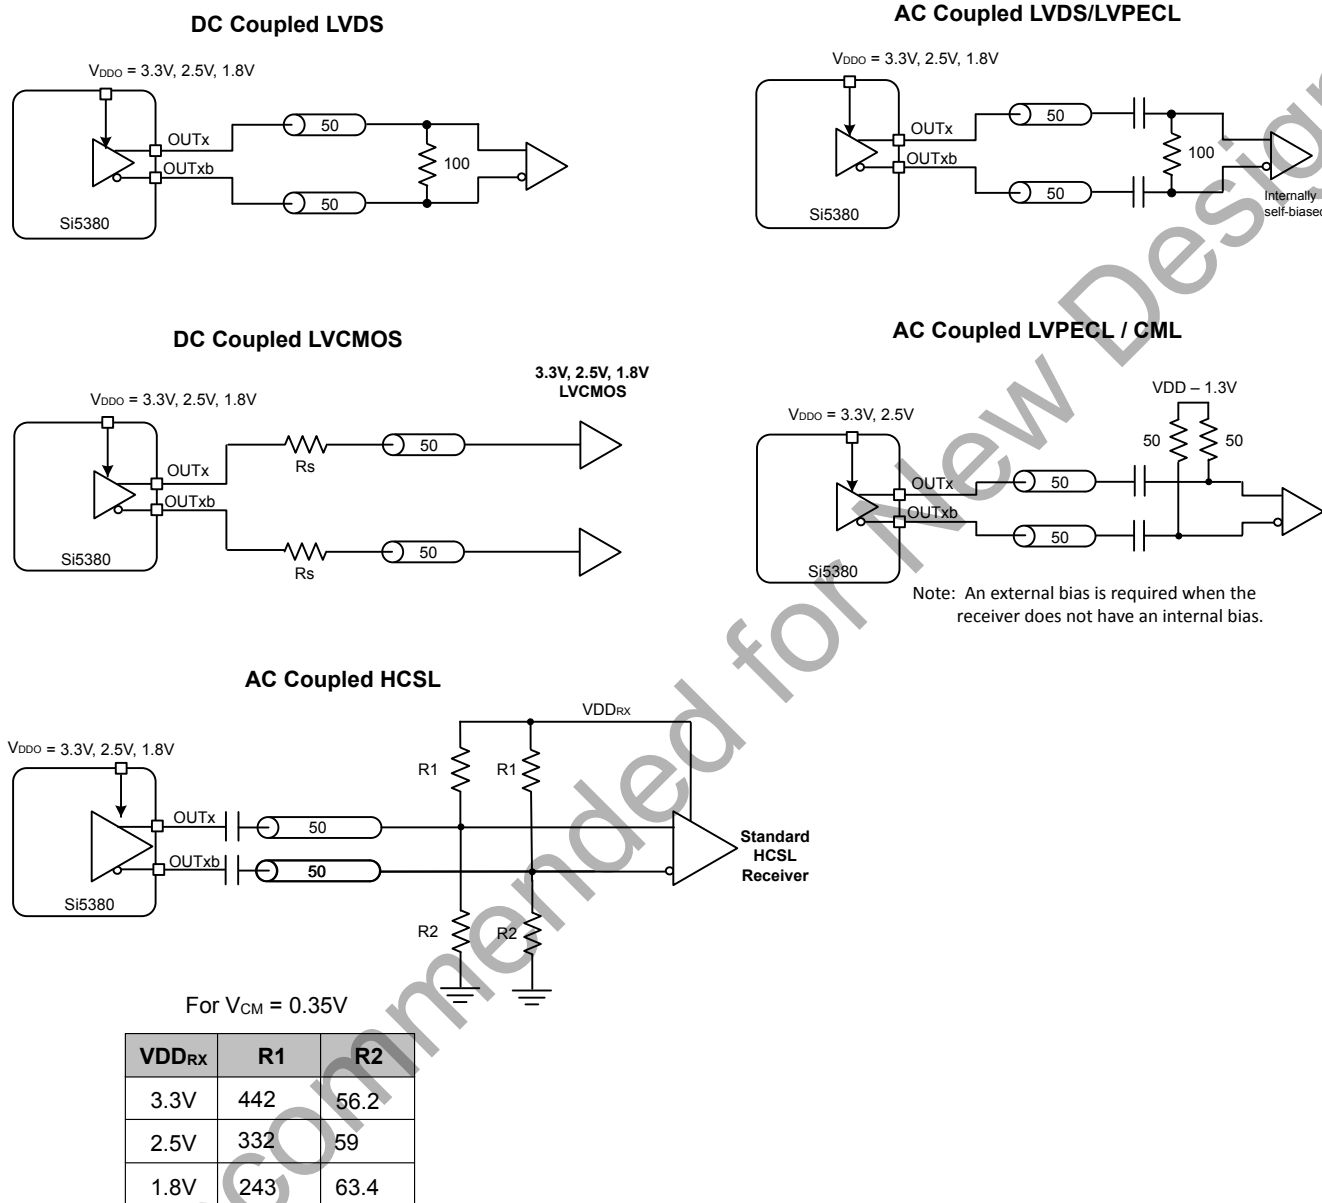

Figure 4.2. Termination of Differential and LVCMOS Input Signals
2. Creates HCSL compatible signals, see HCSL receiver biasing network in Figure 4.2 Termination of Differential and LVCMOS Input Signals on page 40.